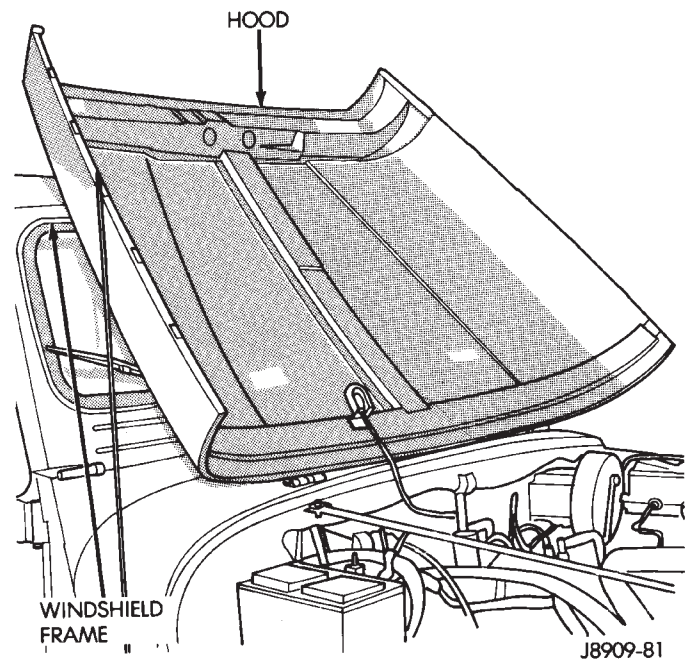

Fig. 17 Hood on Windshield Frame
- (1) Place a protective cloth over the windshield frame. Raise the hood and rest it on the windshield frame (Fig. 17).
- (2) Disconnect the battery cables. Remove the battery.